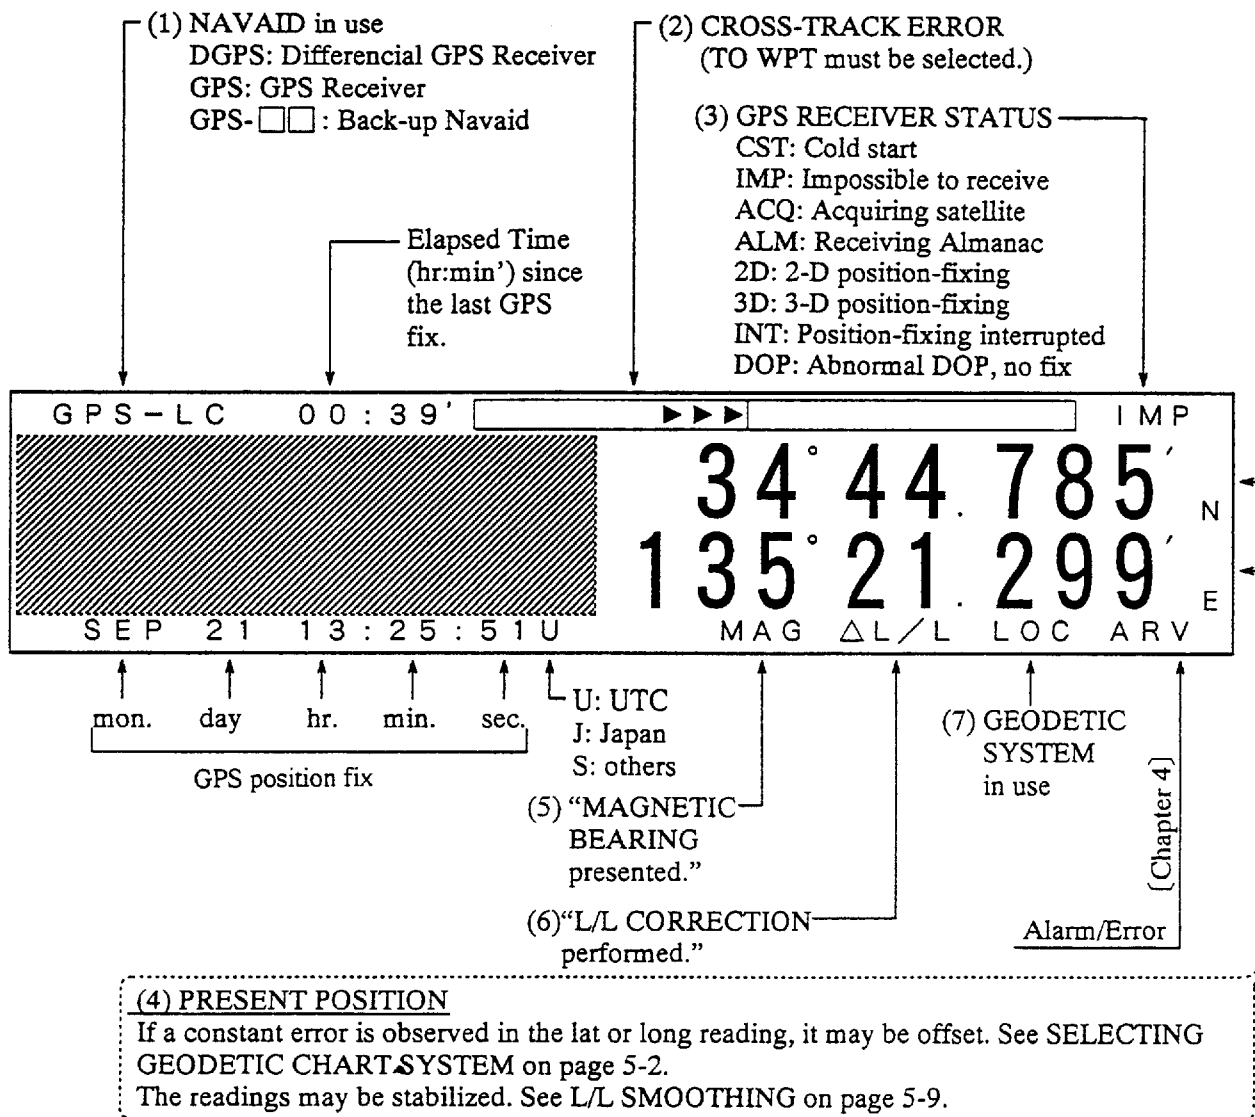

Figure 2-9 Typical position display
Detailed descriptions of items 1 through 7 in Figure 2-9 follow.
① **Position-fixing system in use**